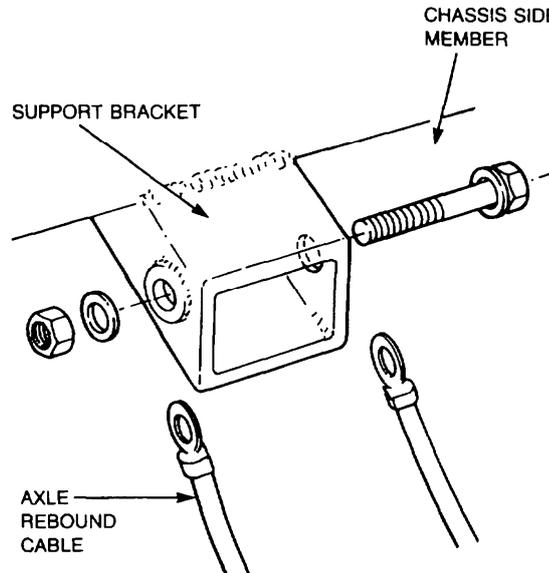

Figure 161 Axle Rebound Check Cable Removal
- a. Remove the nuts and washers supporting the rebound cable to the support bracket (Figure 161).